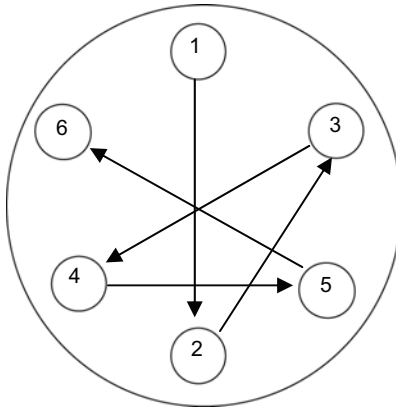

Figure 12. Third Stage Valve Head Cap Screw Torque Sequence.
- f. Insert and torque the cap screws to 206 in.-lbs using the sequence shown in Figure 12.